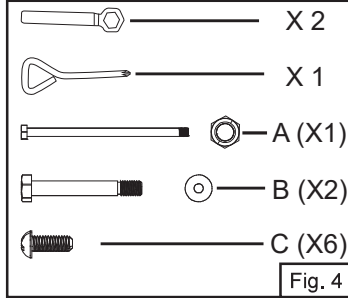

Fig. 4
2. See carton for parts and hardware included with your appliance (Fig. 4).